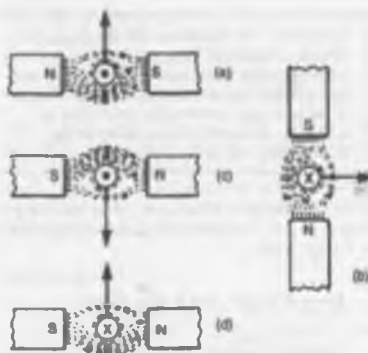

Figure 8.16
- The direction of the main magnetic field is from north to south, i.e. left to right. The current is flowing towards the viewer, and using the screw rule, the direction of the field is anticlockwise. Hence either by Fleming's left-hand rule, or by sketching the interacting magnetic field as shown in Fig. 8.16(a), the direction of the force on the conductor is seen to be upward.
- Using a similar method to part (a) it is seen that the force on the conductor is to the right - see Fig. 8.16(b).
- (c) Using Fleming's left-hand rule, or by sketching as in Fig. 8.16(c), it is seen that the current is toward the viewer, i.e. out of the paper.
- (d) Similar to part (c), the polarity of the magnetic system is as shown in Fig. 8.16(d).